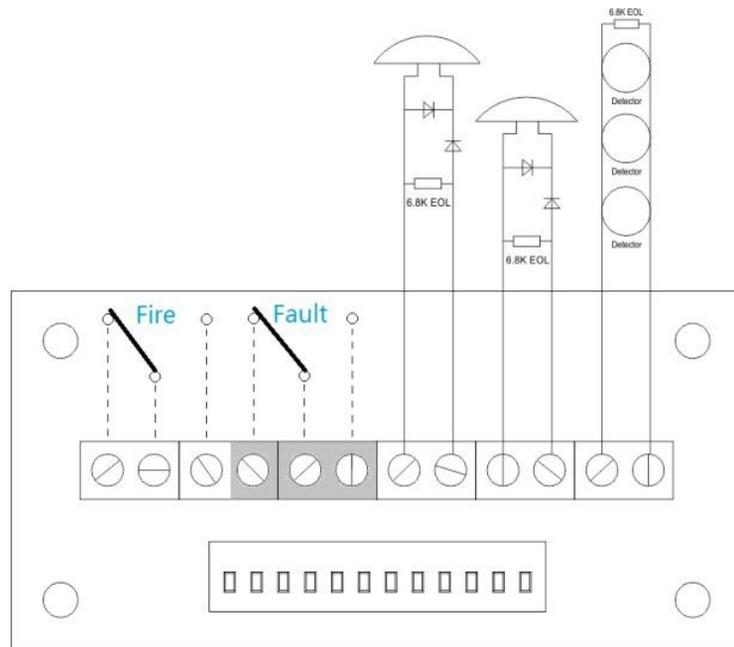

Figure 5 . Output terminals connection
- Connect the field wiring: See Figure 5.
Cabinets can be surface or flush mounted to wall. See Figure 5 for framing and mounting dimensions.